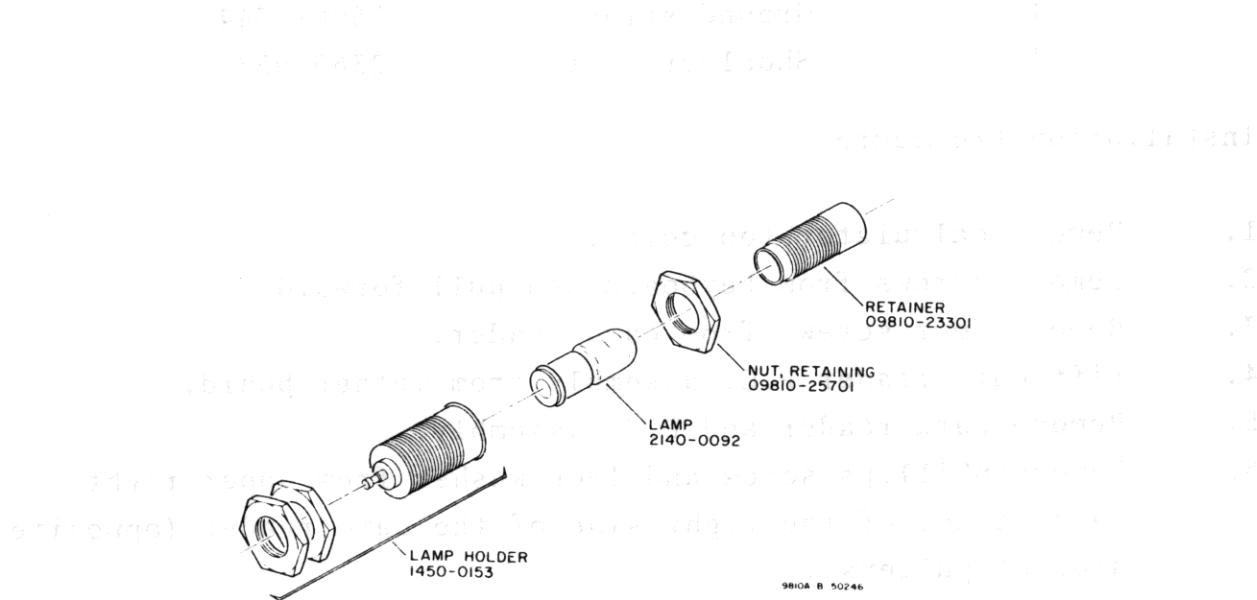

Figure 6-12. Lamp assembly exploded view.
3. Loosen brass nut on the front (Lamp) end of the assembly with a 3/16" wrench. (See Figure 6-12.)